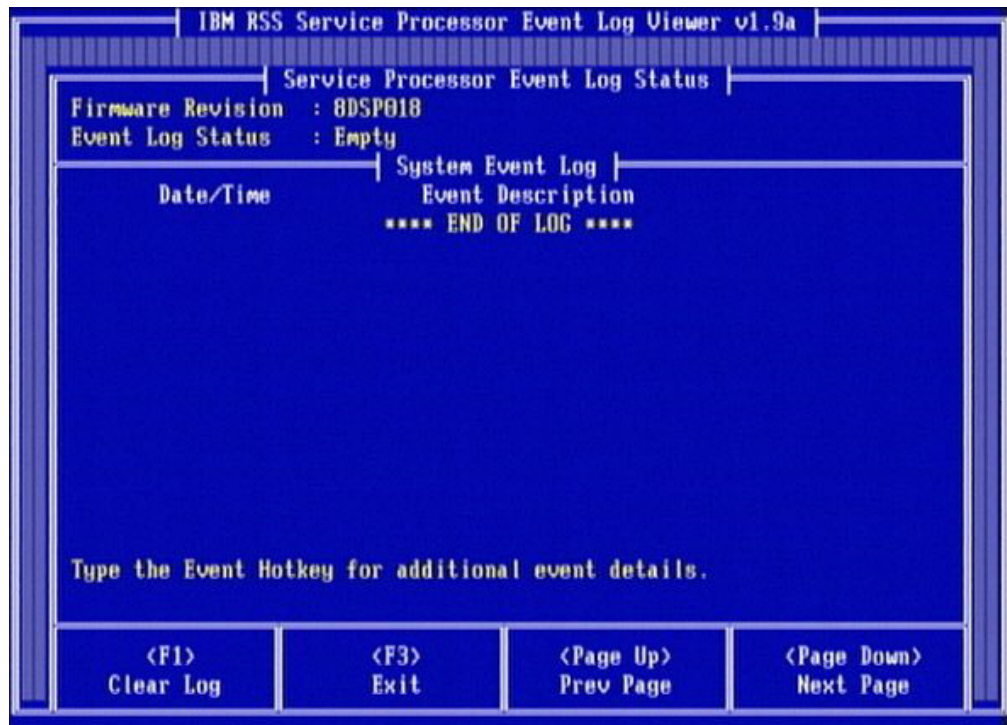

Figure 38. Example of saved events screen
2. Press Ctrl+D to open the System Event Log Viewer. A screen similar to Figure 38 appears.